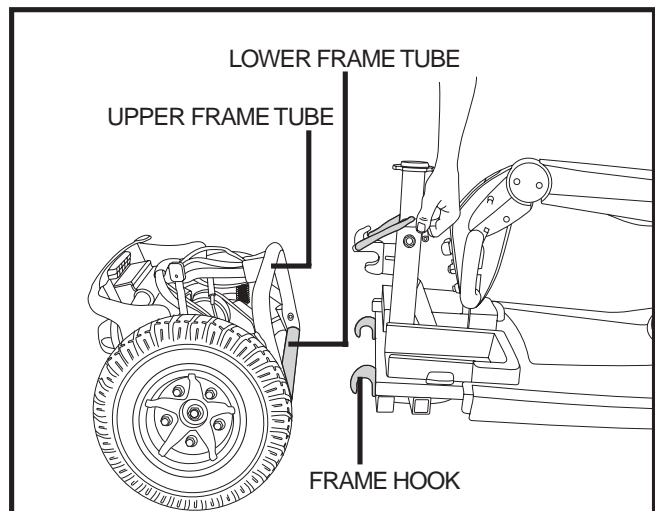

Figure 24. Frame Separation
3. Lift the front section up until the frame hooks of the front section separate from the rear section. **See figure 24.**
4. Slowly separate the two sections. **See figure 24.**
1. Position the front and rear sections of your scooter as shown in **figure 24**.